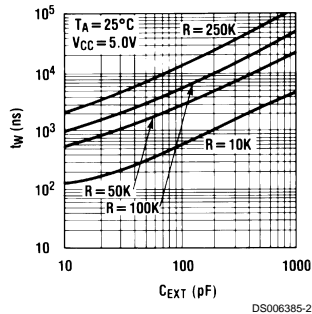

FIGURE 1.
- The pulse width is essentially determined by external timing components R_X and C_X . For $C_X < 1000\text{ pF}$ see *Figure 1*; design curves on T_W as function of timing components value. For $C_X \gg 1000\text{ pF}$ the output is defined as: